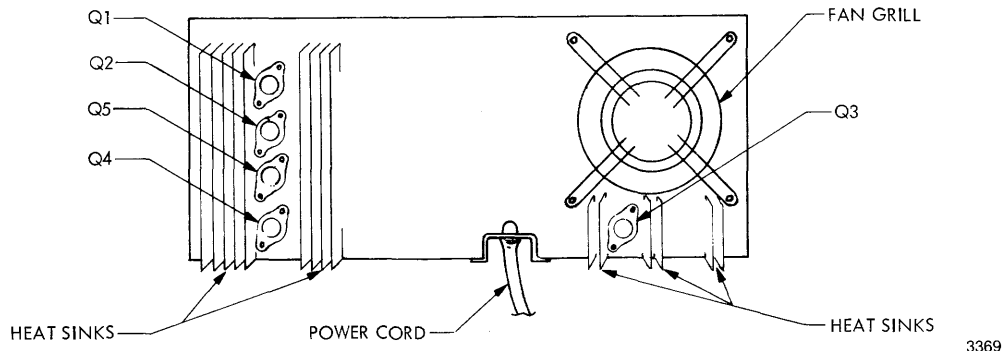

Figure B-1. Rear View of Disk Drive
- (5) If any voltage specified in Step (4) is not present, replace the power supply; otherwise, go to Step (6).
- (6) If one of the voltages is not correct, disconnect all boards that are powered from the Servo PCBA. If voltages are correct after the boards are disconnected, begin reconnecting boards one at a time until an incorrect voltage is measured. Replace the board that caused the incorrect voltage to appear.
- (7) If voltage at any test point is incorrect after the preceding tests, refer to Figure B-1 and continue troubleshooting procedure.